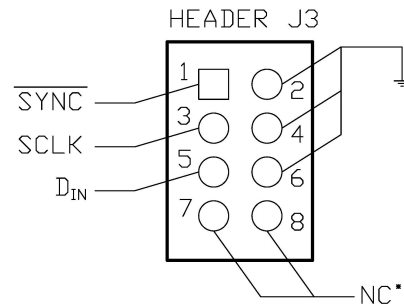

Figure 3: J3 Serial Interface Header
4. Connect your Pattern Generator to Serial Interface header J3. Refer to *Figure 3* below for connection details.
J3: Serial Interface Header	Serial Interface connector. Logic Input. (Refer to Figure 3 for a pin-out diagram.)